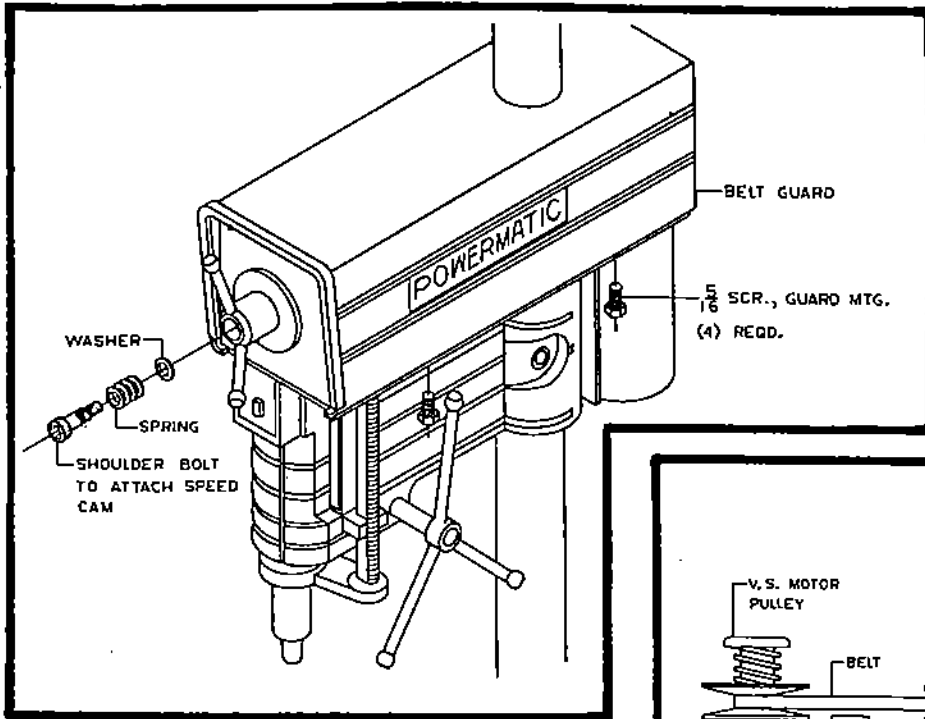

Figure 3
- a. Remove variable speed control cam by removing shoulder bolt (Fig. 3), then remove (4) 5/16 guard retaining screws and lift guard from machine.